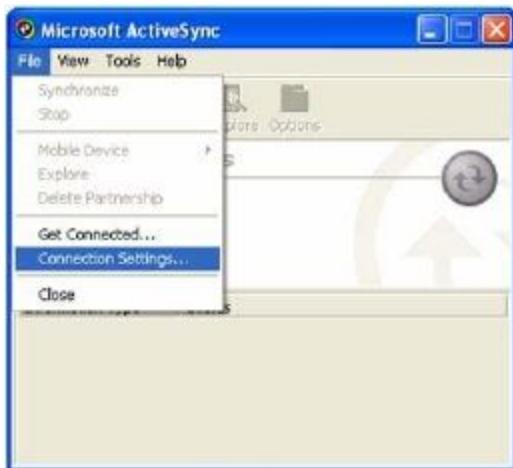

Figure 5.16
1. Select **File** → **Connection Settings....** from the menu in ActiveSync. See Figure 5.16.